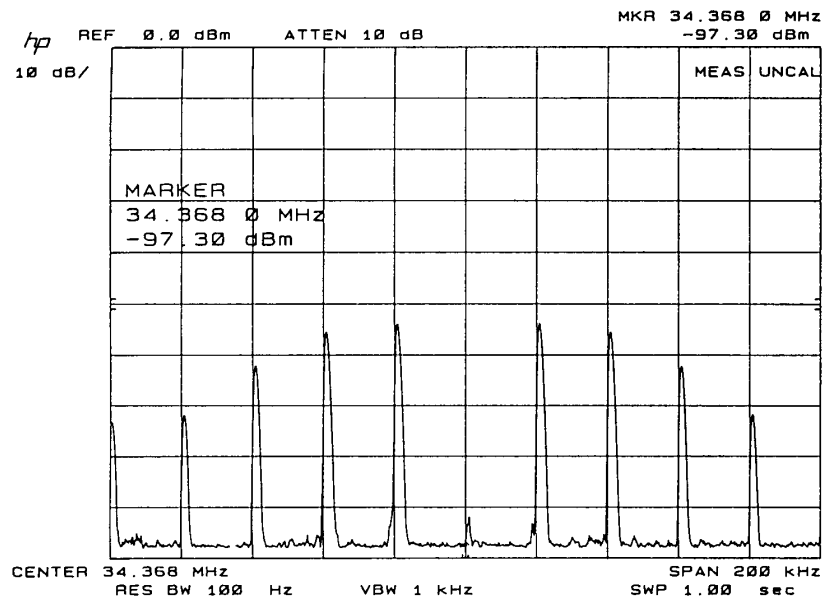

Figure 3-7 Bessel Null Example
- 10** Adjust the OmniBER's jitter amplitude until the first **Bessel Null** is observed on the Spectrum Analyzer i.e first dip in the carrier level (see Figure 3-7).